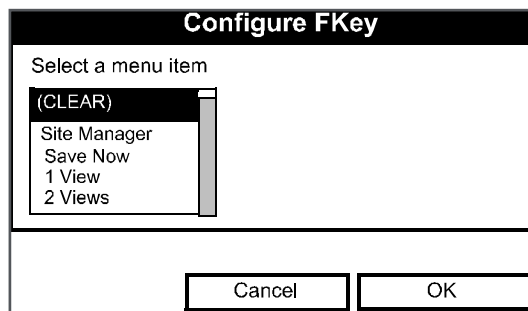

Figure 94: The Configure FKey Window
- Use the [▼] or [▲] arrow keys to move to the desired FKey (1, 2 or 3) entry on the menu. Press **[ENTER]**. The Configure FKey window opens, as shown in *Figure 94*.